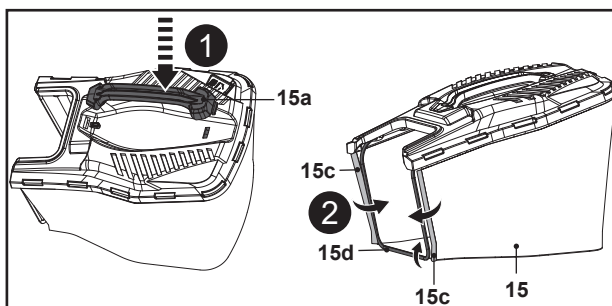

Fig. 4
1. Insert the carry handle (15a) into the two assembling slots and make sure that the carry handle (15a) is firmly in place (Fig. 4, step 1).
2. Clip the three rubber clips (15c) onto the supporting rod (15d) of the grass catcher (15) (Fig. 4, step 2).
3. The grass catcher (15) is ready for use.